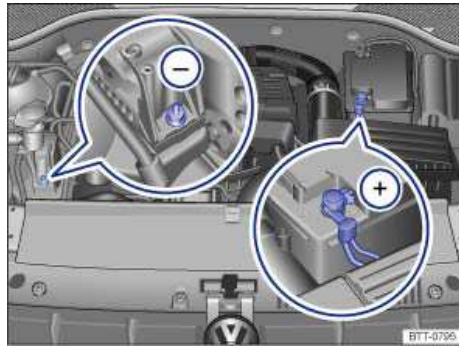

Fig. 179 In the engine compartment (1.8 liter engine): Positive jump-start terminal + and negative jump-start terminal -.
3. Attach one end of the *red* jumper cable to the **positive terminal (+)** of the dead battery: (1) ⇒ ⚠.
4. Attach the other end of the *red* jumper cable to the **positive terminal (+)** of the good battery (booster battery): (2).
5. Attach one end of the *black* jumper cable to the **negative terminal (-)** of the booster battery: (2) .
6. Attach the other end of the *black* jumper cable (3) to **a bare metal part of the vehicle with the dead battery**. This part should be connected directly to the engine block. You may also attach the cable to the engine block itself or to the towing eye installed on the front of the vehicle, *Towing*.
Attach the clamp to a point that is as far away as possible from the dead battery (1) ⇒ ⚠. On vehicles with vehicles with a **1.8 liter engine**, see ⇒ fig. 179.